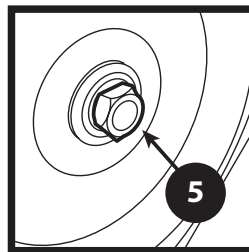

FIGURE 3
5. Check the nut that secures the contact wheel to its mount. Ensure this nut is tightened to 10 to 15 foot pounds of torque. (1.4 – 2 kg meters) (Figure 3)